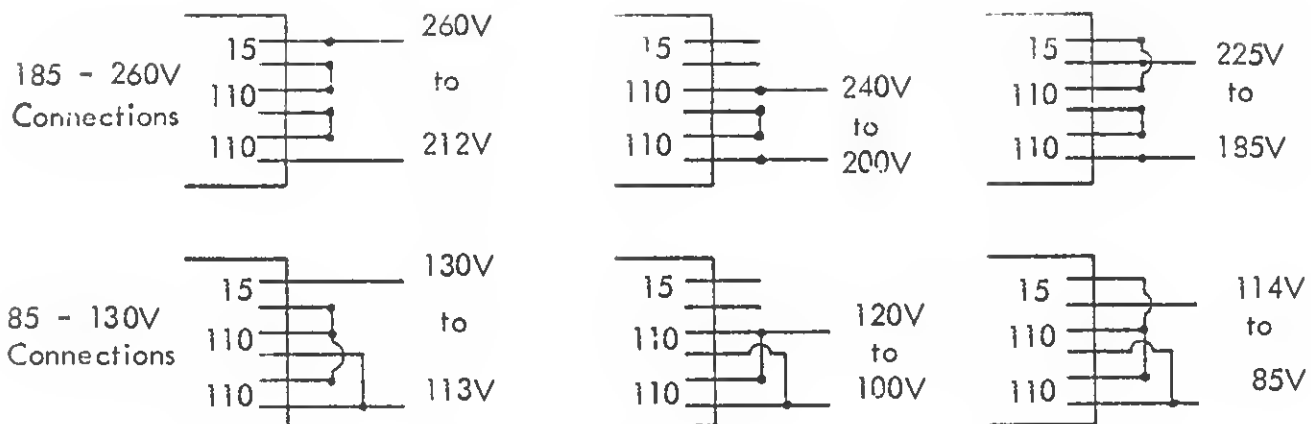

Figure 2. Transformer Connections
5.11 The AC input to the supply is taken via S1A and S1B and a 5A Delay fuse to the two transformers T1 and T2 whose primary windings are connected in parallel across the supply. Interconnection of the voltage tapings on the primary windings give a wide range of input voltages, see Figure 2.